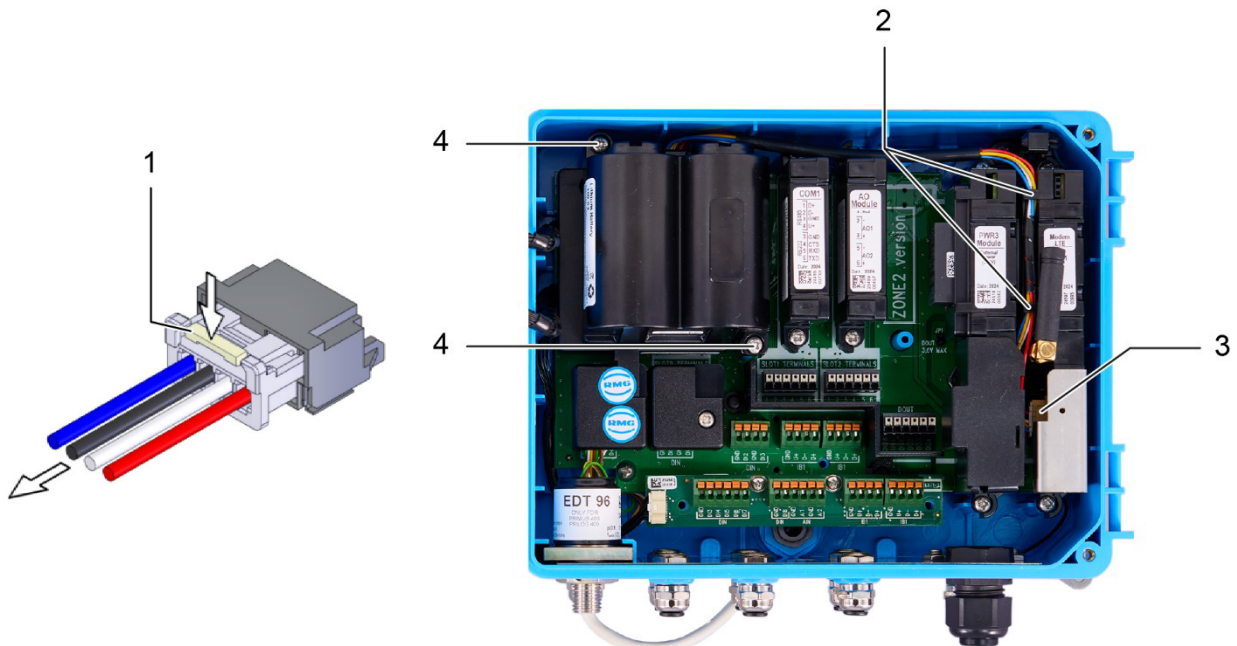

Fig. 57: Replacing the modem battery
- Press the lock (fig. 57, item 1) and gently pull the cables to disconnect the connector of the modem battery (fig. 57, item 3).
- Loosen the battery cables from the bracket (fig. 57, item 2)
- Loosen the mounting screws (fig. 57, item 4).
- Hitch the cables under the bracket (fig. 57, item 2) and connect the connector (fig. 57, item 3).